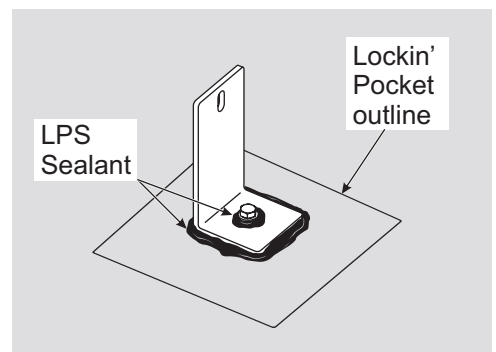

Figure 2-2: Applying LPS Sealant around base & attaching Hardware
- C. Using LPS sealant seal the perimeter of the "L" Foot base and around the attaching hardware. (See Figure 2-2)